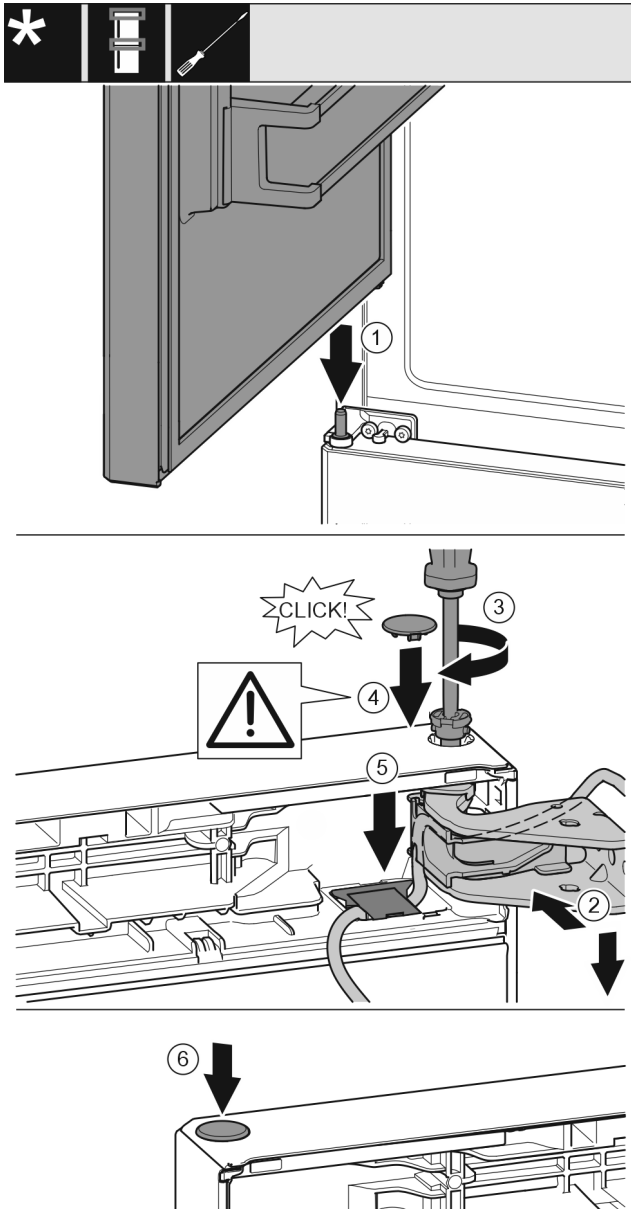

Fig. 42
- Place the upper door on the centre bearing pins Fig. 42 (1)
- Align the top of the door with opening in the bearing bracket. Fig. 42 (2)
- Insert the bolt and tighten with a T15 screwdriver. Fig. 42 (3)
- Fit the protective cover to protect the door: Insert the protective cover and check that it is flush to the door. If not, insert the bolt fully. Fig. 42 (4)
- Place on the cover and press it down until it latches into place. Fig. 42 (5)
- Insert the plugs. Fig. 42 (6)